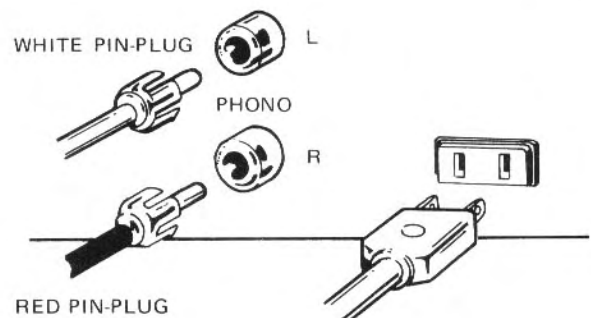

Figure 6
1. Connect the output plugs of RP-1000 to the input jacks of your amplifier marked PHONO or MAG (if marked otherwise, make sure they are magnetic phono inputs). See Figure 6.